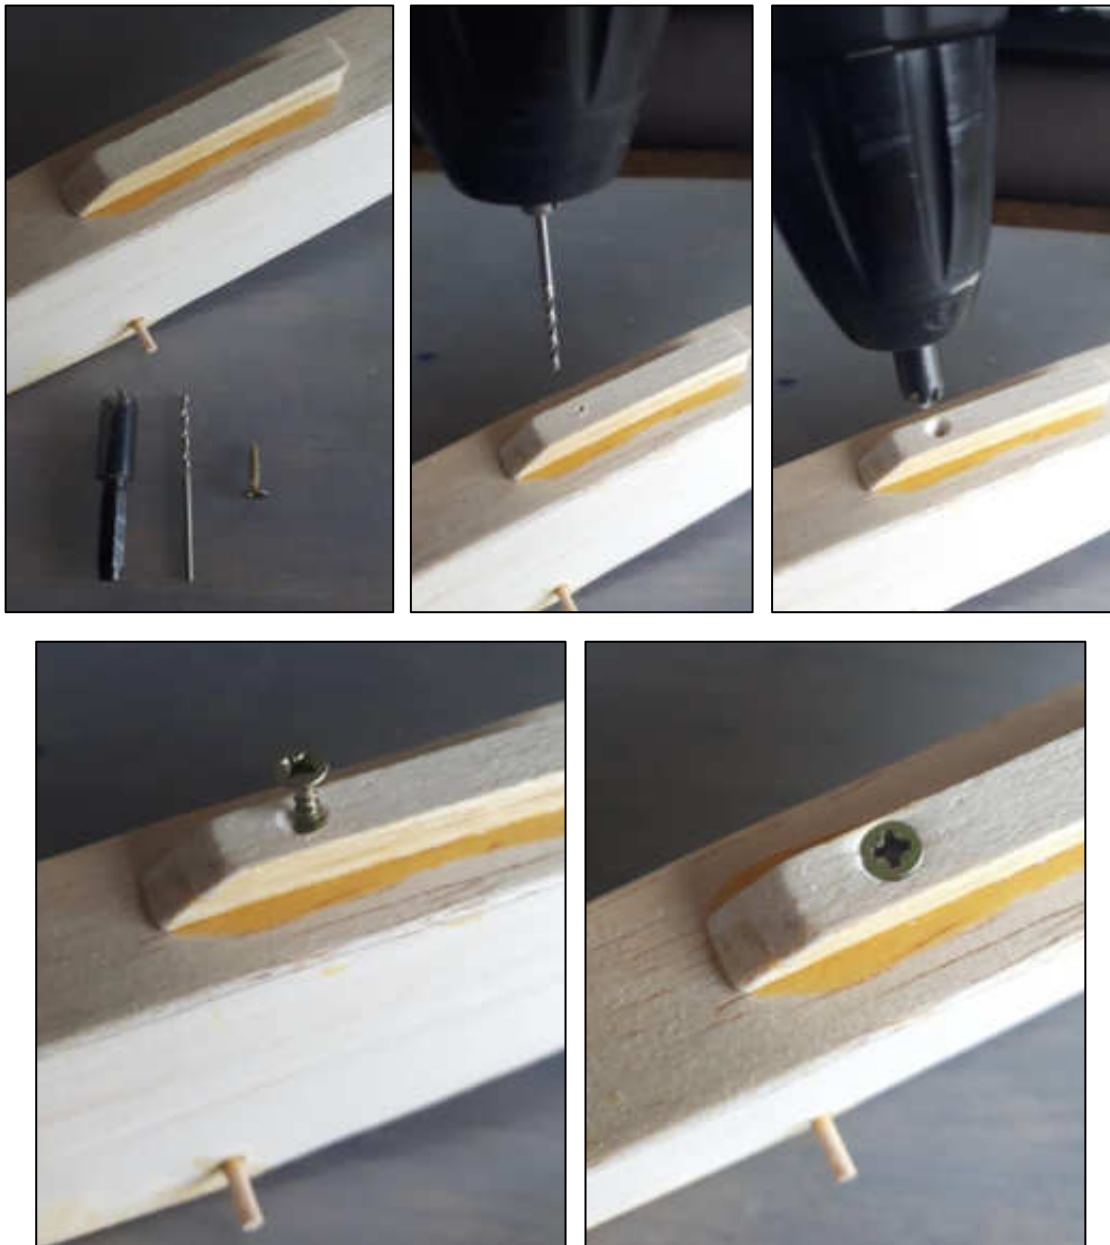

Figure 27: Insert screw into the launch attachment.
27. This stage is optional. Use a 2.5mm drill bit and a counter sink to create a hole for a small screw. Insert the screw to provide extra support to the launch attachment, Figure 27.